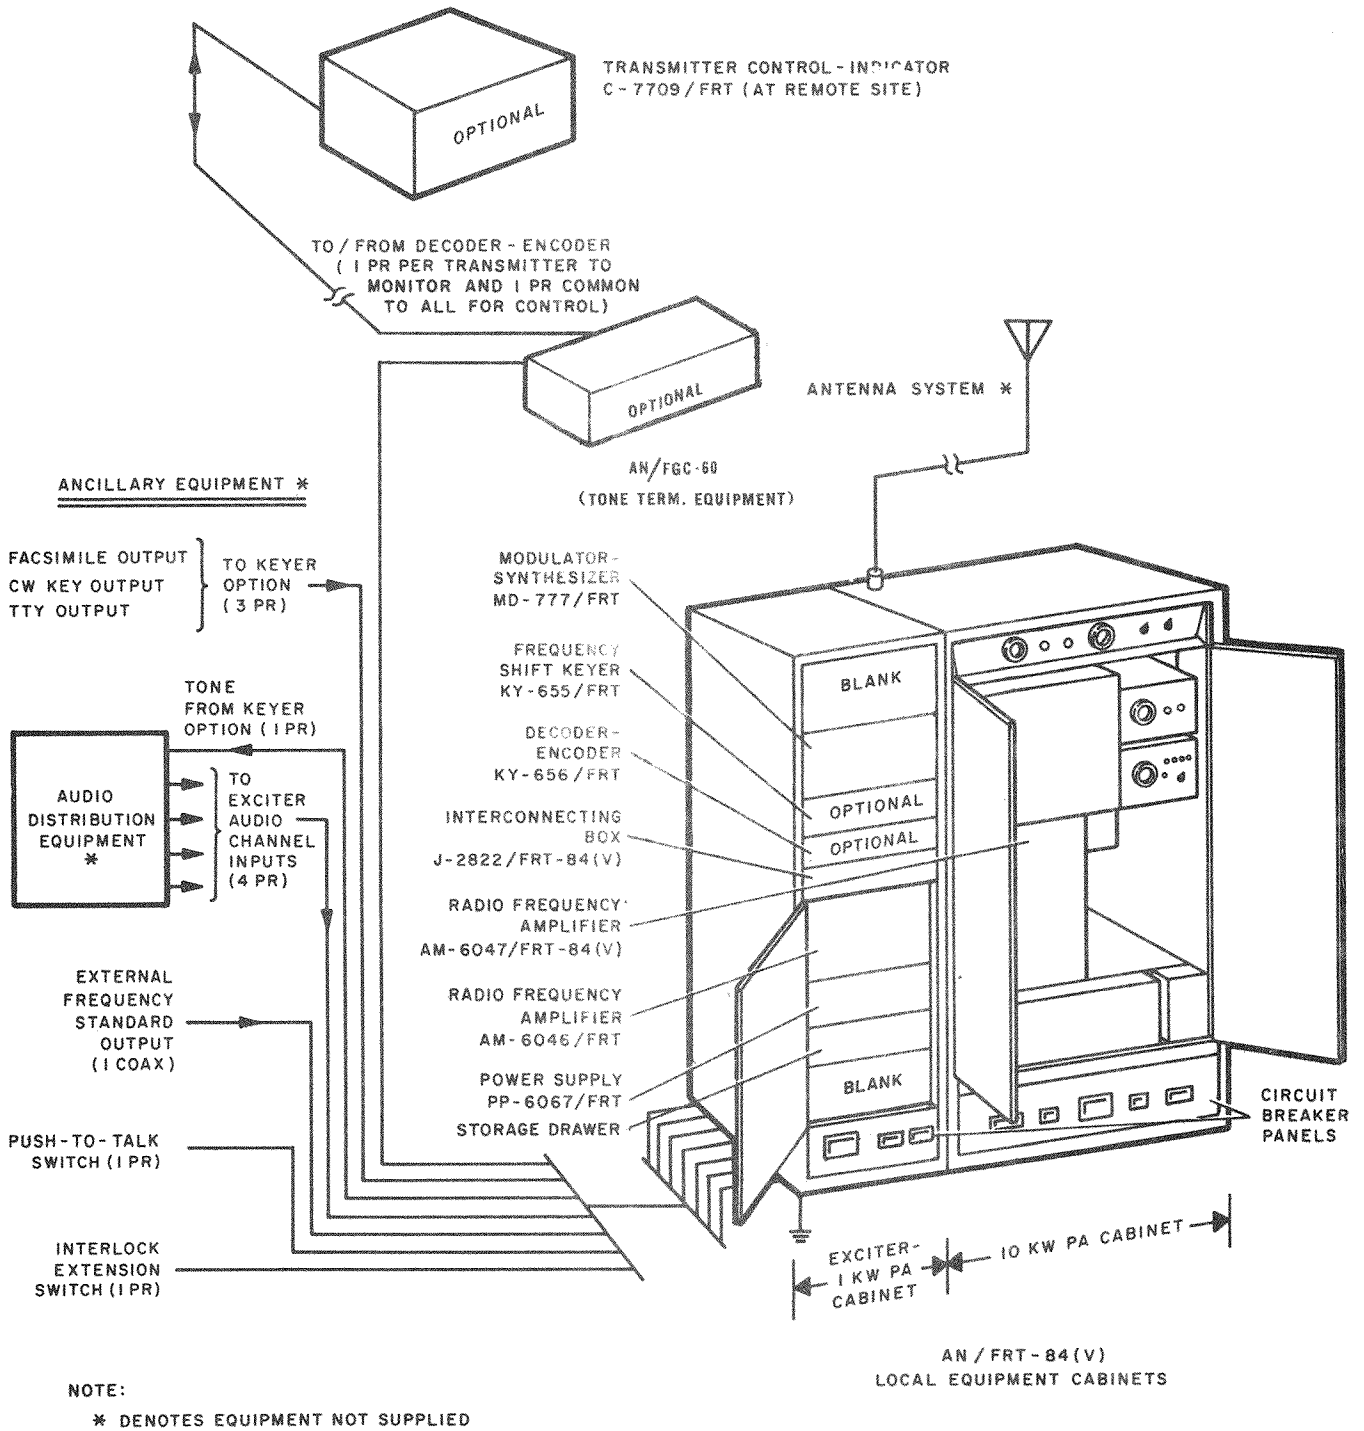

Figure 1-1. Radio Transmitting Set AN/FRT-84(V), Relationship of Units
For the sake of brevity, full nomenclature will not be used in this manual. Units are identified in figure 1-1, which shows a representative AN/FRT-84(V) with all optional units.
1-10. The various configurations of the AN/FRT-84(V) all have an Exciter unit, a 1 KW Power Supply unit, a 1 KW PA unit, a 10 KW PA unit with integral power supply, and an I Box unit. Together with their respective cabinets, these units form the basic transmitter as shown in figure 1-1. The transmitter is cooled by forced air. The equipment in the Exciter-1 KW PA cabinet provides the RF power to drive the 10 KW PA in the companion cabinet. Incorporation of optional units extends the capabilities of the basic transmitter as follows: (1) Keyer unit increases variety of input device types which can be used and (2) Remote Control unit and associated Decoder-Encoder unit provides remote control/remote monitoring capability.